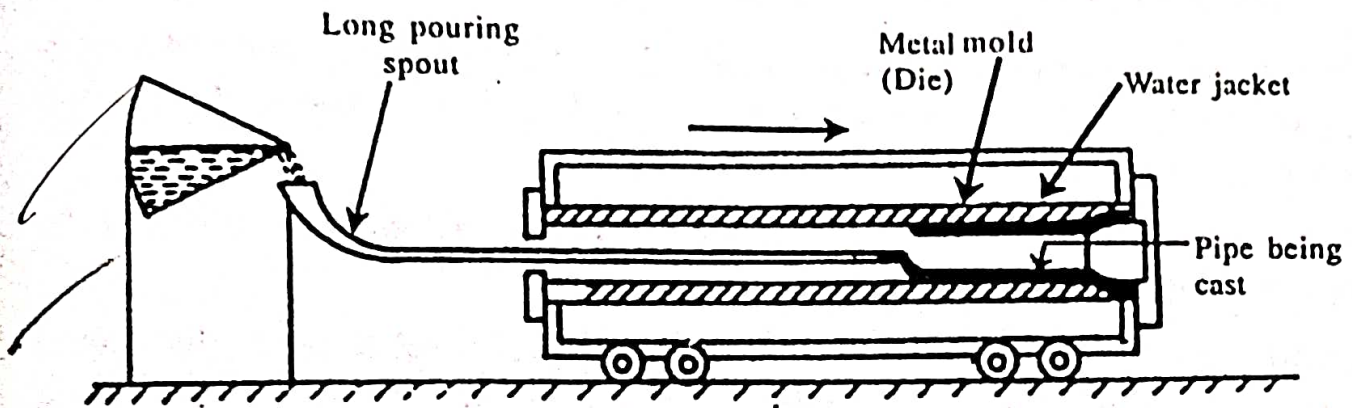

Fig : 7.8 De Lavaud casting machine.
- c. Figure 7.8 shows the essentials of de Lavaud casting process.